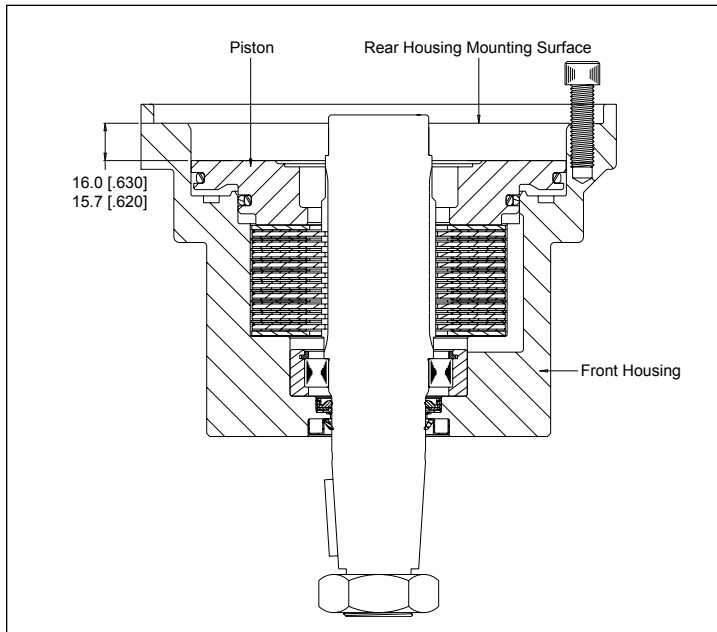

FIGURE 2
- I)** If servicing a 710 Series, install bearing shims (not shown in exploded view) in housing followed by front housing bearing (16). If servicing a DR motor, install front housing bearing (16) into housing making sure that the snap ring that retains bearing rolls faces up. Making sure not to cut seal lip with shaft keyway, install shaft (35) into housing (15).
- J)** Install one disk stamping (18) into housing making sure that lugs or splines engage those in housing (15). Install one friction disk (17) engaging splines on disk with those on shaft. Alternate disk stampings and friction disks until all disks except thick disk stamping (19) are installed. Install thick disk stamping (19) lastly on top of disk assembly.
- K)** Install small O-Ring seal (5) and large O-Ring seal (7) into corresponding grooves in piston (20). Install small seal (6) and large seal (8) in corresponding grooves over O-Ring seals. Thoroughly coat seals and sealing surfaces of housing (15) with clean oil. With large O.D. side of piston (20) facing up, install piston (20) into housing (15) and evenly press piston down making sure not to pinch seals. (If the disks and disk stampings are going to be replaced, the stack up on the new disks must be between 15.7 - 16.0 [.620 - .630]. Use Figure 2 for measuring reference.)